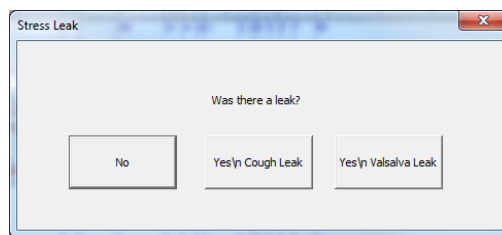

Figure 63: Stress Leak Message Box
- When a test is stopped, a message box appears with options to select and help differentiate between a cough leak and a valsalva leak (Figure 63).